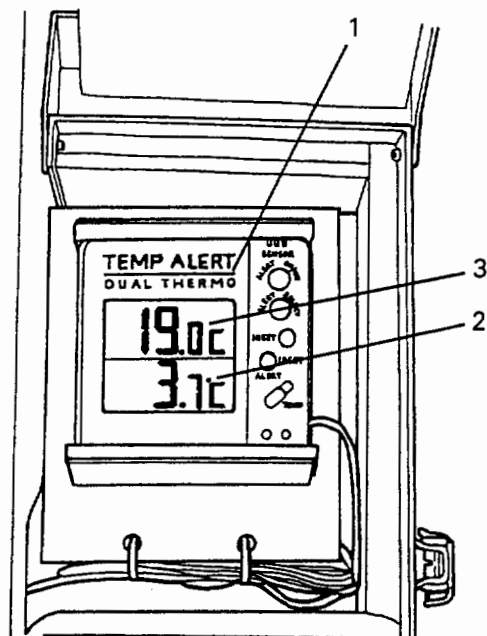

Figure 3-11 — Temp Alert, Dual Temperature Gauge
319. The dual temperature gauge (1) monitors the blood refrigerator internal operating temperature (2) and the external ambient temperature (3) (Fig 3-11).